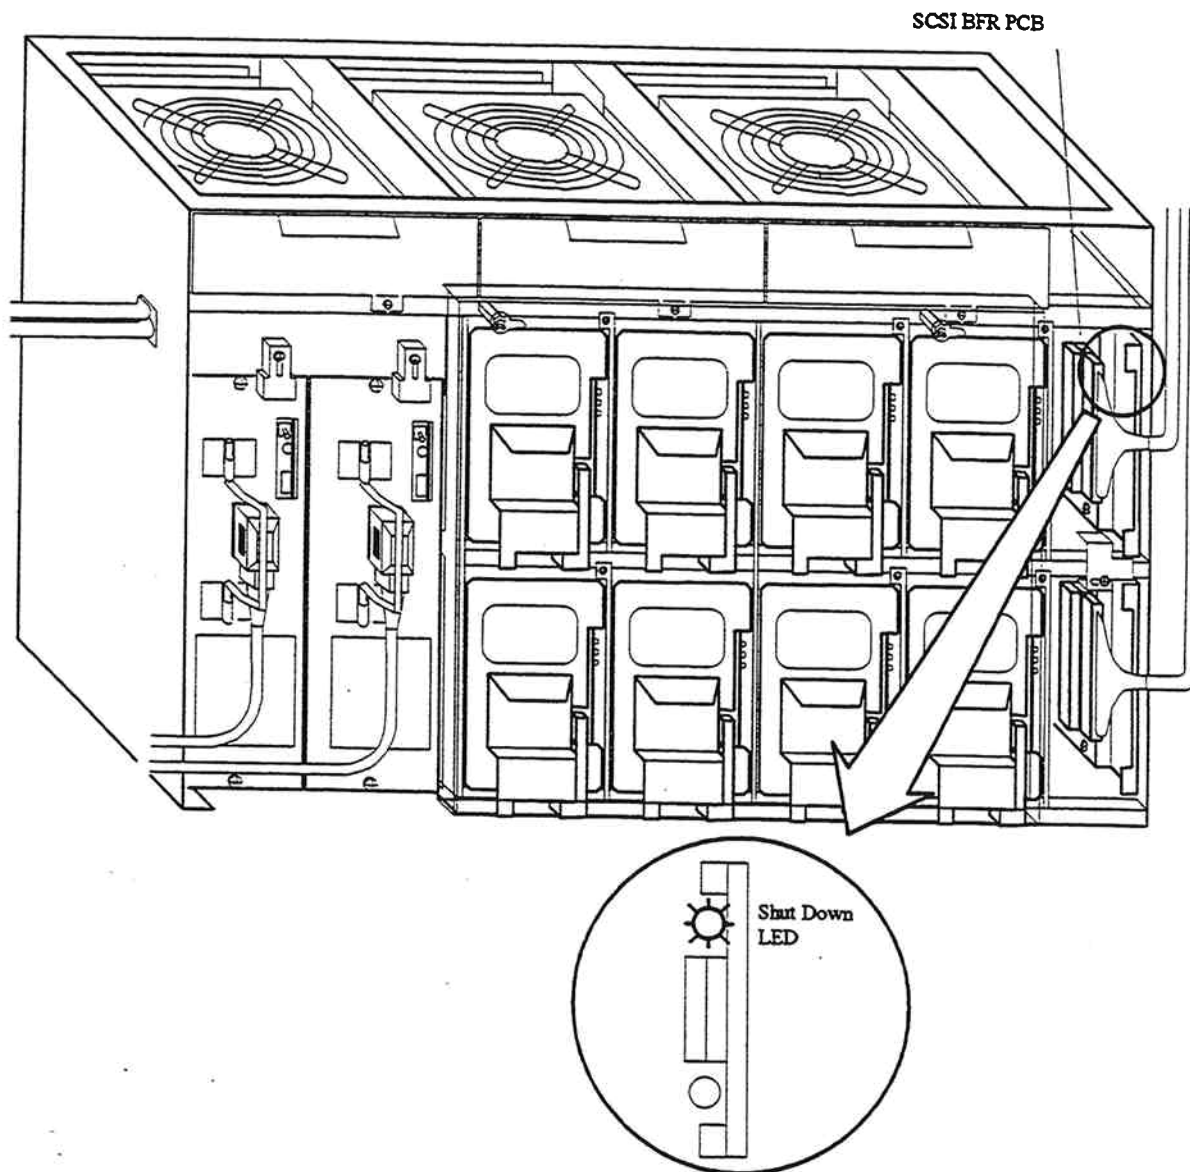

Fig. 3.3.13.2.3-3 Confirmation of the Shut Down LED Light
4. Connect the SCSI interface cables to the SCSI BFR PCBs in the first DKU chassis referring to figures 3.3.13.2.3-4 and 3.3.13.2.3-5.